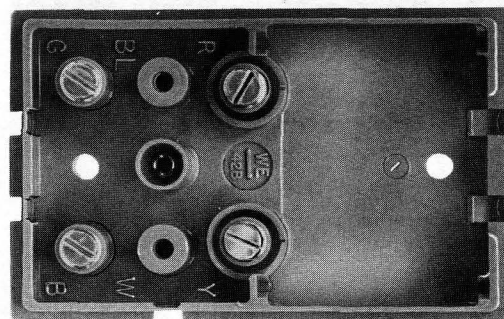

Fig. 2—42B4 Connecting Block
B. ♦42B Connecting Block (Fig. 2 and 3)